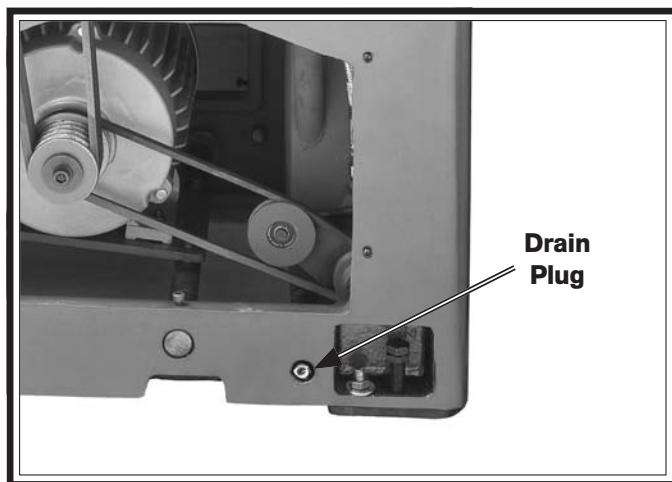

Figure 98. Headstock oil drain plug.
6. Place the low-profile catch pan under the drain plug shown in **Figure 98**, then remove the drain plug and let the remaining oil flow from the tank.